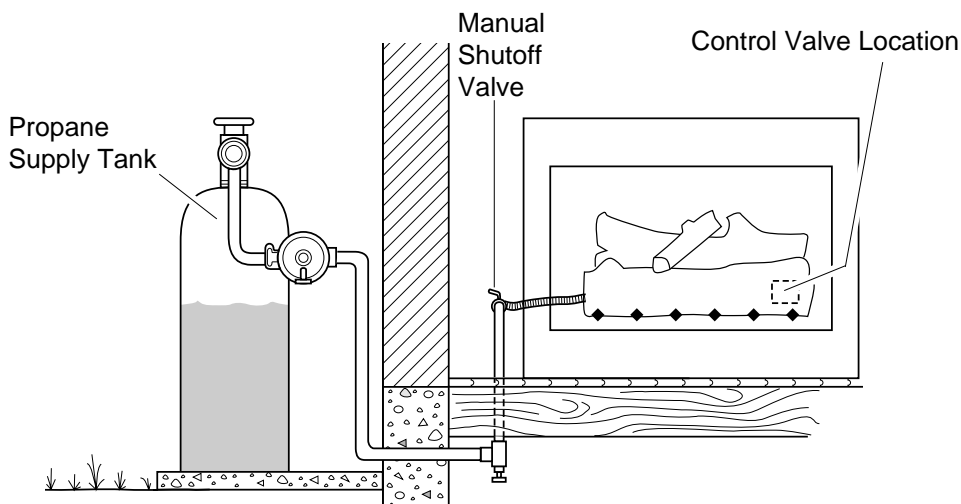

Figure 16 - Checking Gas Joints
4. Check all joints from manual shutoff valve to control valve (see Figure 16). Apply mixture of liquid soap and water to gas joints. Bubbles forming show a leak.